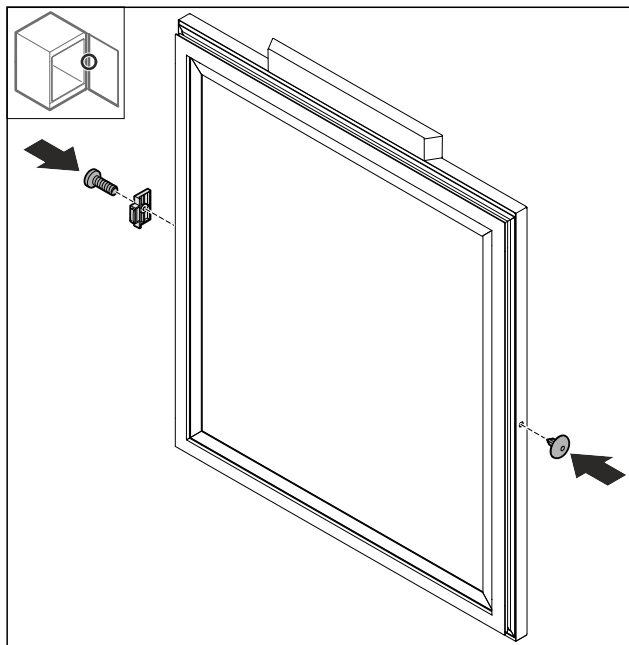

Fig. 49
- Mount the door stopper Fig. 49 (1) turned by 180° on the opposite side.
- Insert the cover Fig. 49 (2) on the opposite side.